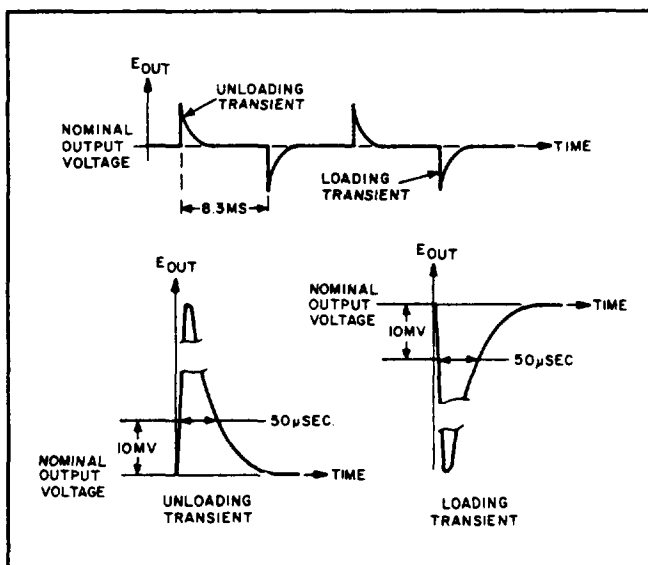

Figure 5-6. Transient Recovery Time Waveforms
- k. Starting from the major graticule division representative of time zero, count to the right 50µsec and vertically 10mV. Recovery should be within these tolerances as illustrated in Figure 5-6.